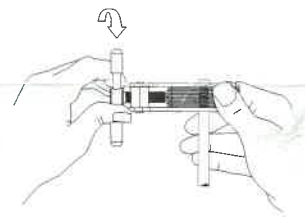

Fig. 2
4. Tighten the clamp screw approximately 1/2 to 3/4 of a turn beyond free travel position to secure tubing. (See Fig. 2)